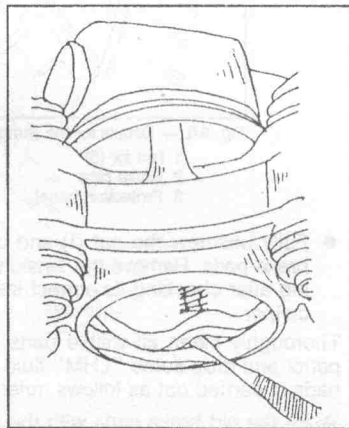

Fig. 9.5. — Removal of the sealing ring.
- Use a blunt instrument and remove the cylinder sealing ring out of the cylinder groove, as shown in Fig. 9.5.